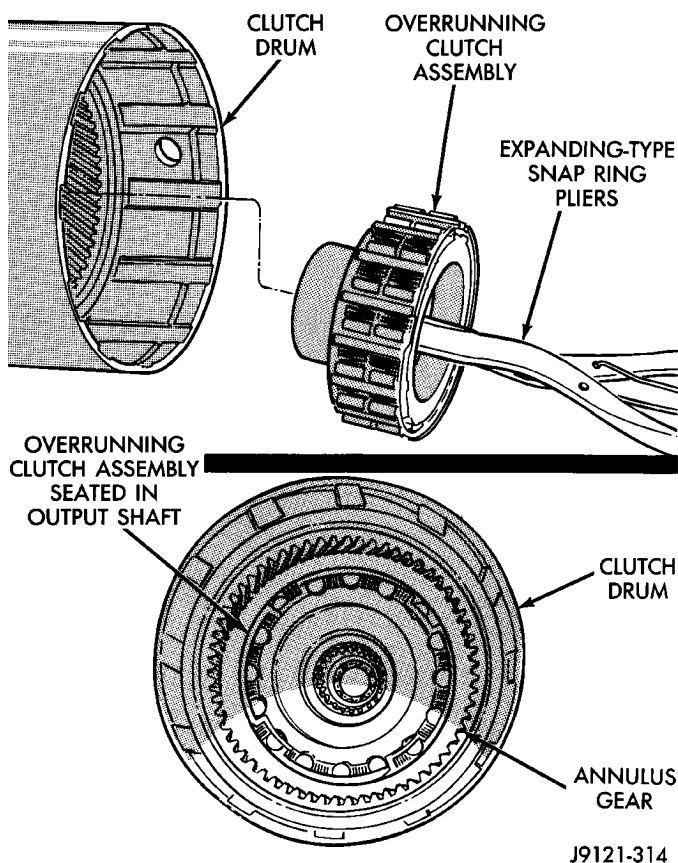

Fig. 219 Overrunning Clutch Installation
(10) Install overrunning clutch in output shaft (Fig. 219). Insert snap ring pliers in hub splines. Expand pliers to grip hub. Then install assembly with counterclockwise, twisting motion.